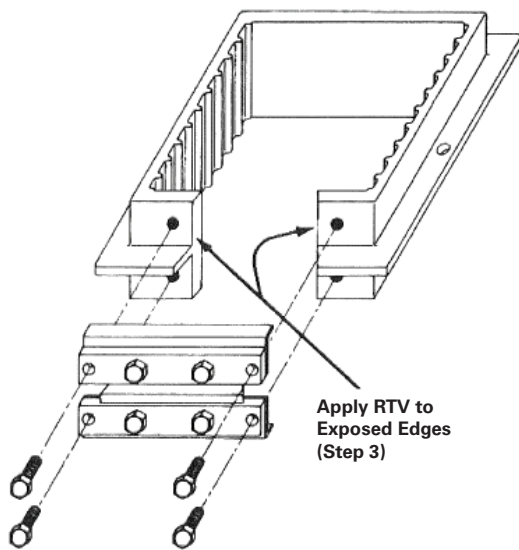

Figure 1: Frame Assembly
1. Disassemble the TWFR Frame by removing the four hex head screws that secure the two reinforcing bars and removable section assembly to the main TWFR Frame. DO NOT loosen or remove the four inner screws. (See Figure 1.)